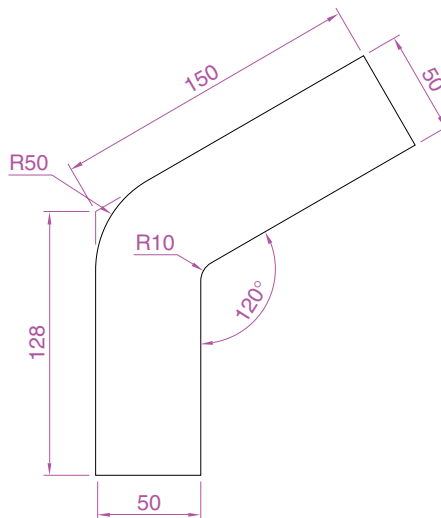

Fig. 17.24 Second example – 2D outlines in 3D space – outline to be extruded
1. Place the drawing area in the UCS *FRONT* view, **Zoom** to 1 and construct the outline in Fig. 17.24.